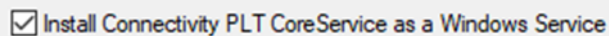

Figure 14. CoreService Windows Service installation
- **CoreService System** – this should be installed in the system that is physically connected to the Connectivity PLT hardware. The service can be installed by enabling the Renesas Connectivity PLT Core Service windows service checkbox in the installation wizard Figure 14. Take note of the IP address of the system, it is needed for the configuration of the Connectivity PLT application.